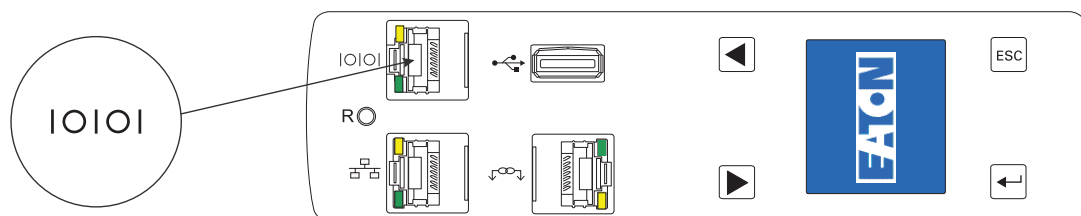

Figure 26. Connecting the EMP to the ePDU Serial Connector
3. Locate the Ethernet cable dedicated to the EMP. Connect one end of the cable to the RJ-45 connector on the EMP, then connect the other end of the cable to the serial connector on the ePDU (see Figure 26).